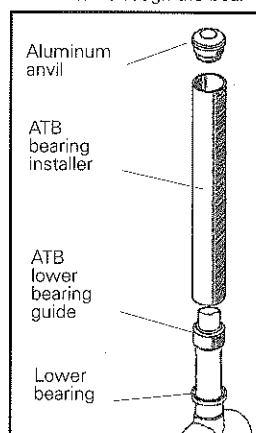

Fig. 54
15. Place the **ATB lower bearing guide** over the end of the steerer (Fig. 54).